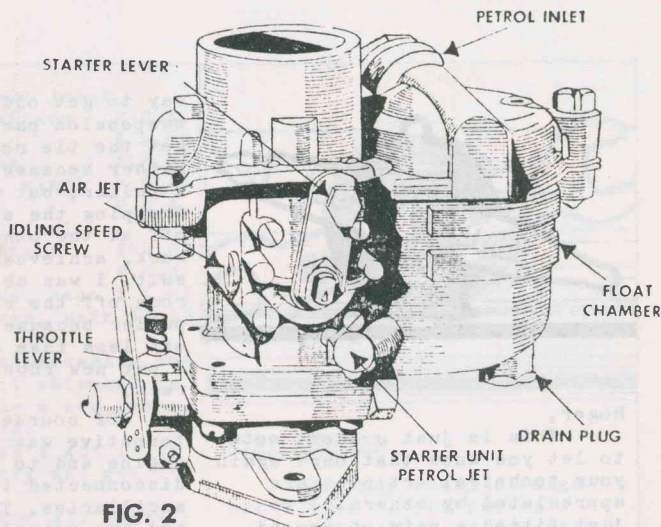

FIG. 2
Wait until the engine is hot and set the idling speed screw (Fig. 2) so the engine is running a little on the high side. Next slacken the volume control screw (21) until the engine begins to hunt, then screw it in until the hunting just disappears. If the engine speed is still too high, set the idling speed screw until a nice even idle is obtained. Should this cause a resumption of hunting, turn the volume control screw in a *clockwise* direction until the idling is perfect. When removing the volume control screw for cleaning, care should be taken to see that the tapered point is not bent or worn. If this is the case, then a new screw should be obtained immediately.